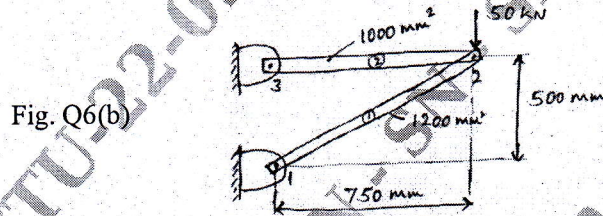

Fig. Q6(b)
- b. For the two bar truss shown in fig.Q6(b), determine the nodal displacement and stress in each member. Also find support reaction. Take $E = 200\text{GPa}$. (12 Marks)